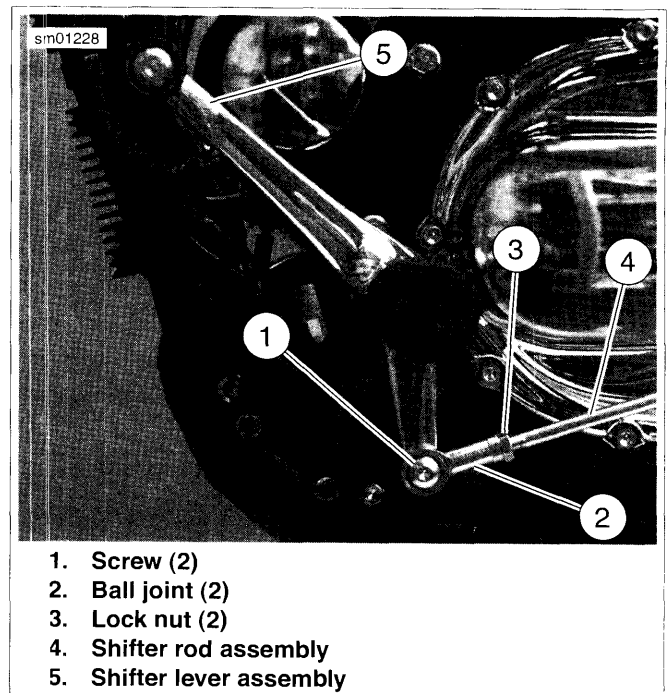

Figure 2-250. Adjusting Shift Pedal: Models with Forward Controls
See Figure 2-250. Adjust shifter rod assembly (4) length until shifter lever assembly (5) is at 45° as shown in the figure:
1. Loosen lock nuts (3) on both ends of shifter rod.
2. Remove screw (1) securing ball joint (2) to shifter lever assembly.
4. When angle of shift lever assembly is at 45 degrees, install screw (1). Tighten to 120-180 **in-lbs** (13.6-20.4 Nm).